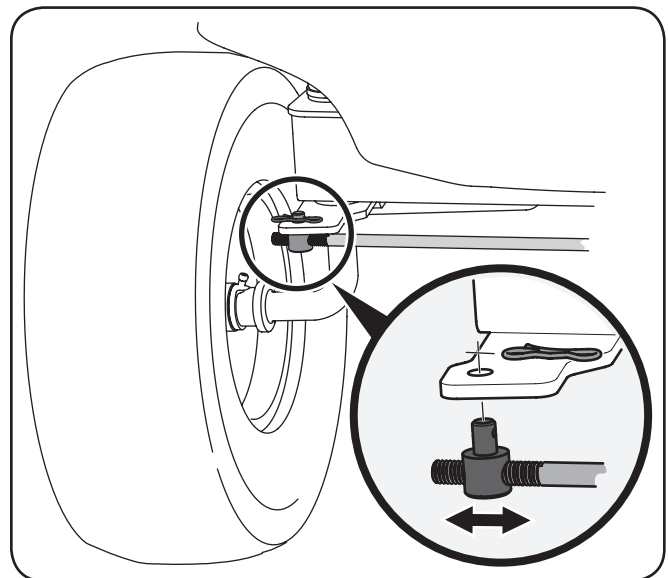

Figure 6-3
1. Remove the bow-tie clip securing the tie-rod ferrule to the right front axle assembly, and drop the tie-rod down to adjust. See Figure 6-3.